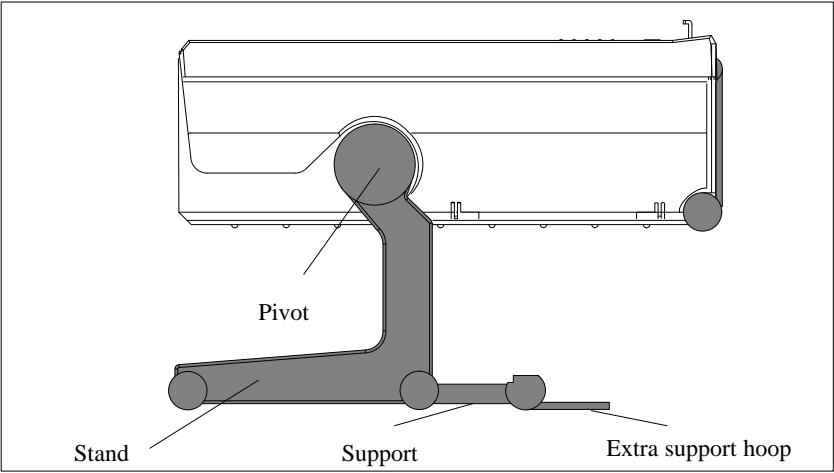

Figure 2-4 Horizontal Operating Position Without Keyboard
2. Pull the support (Figure 2-4) out of the rear of the stand and if necessary pull out the extra support hoop.
If the keyboard is detached, there is a risk of the unit tipping over. Before removing the keyboard, make sure that you pull out the support from the device stand (Figure 2-4) and pull out the additional hoop.